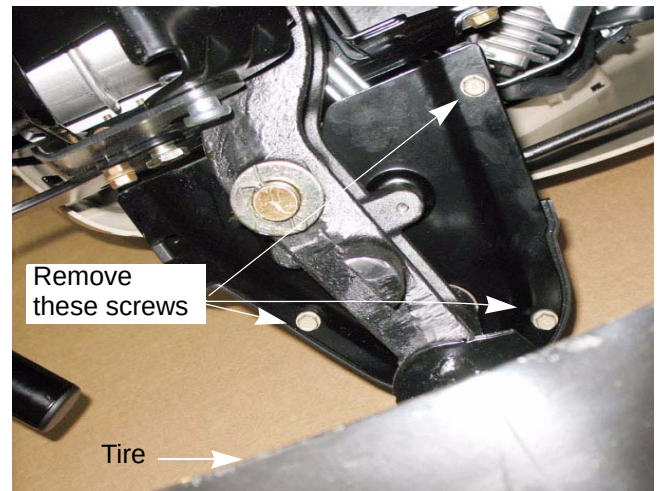

Figure 6.6
1. Remove the three screws holding each steering gear cover in place. See Figure 6.6.